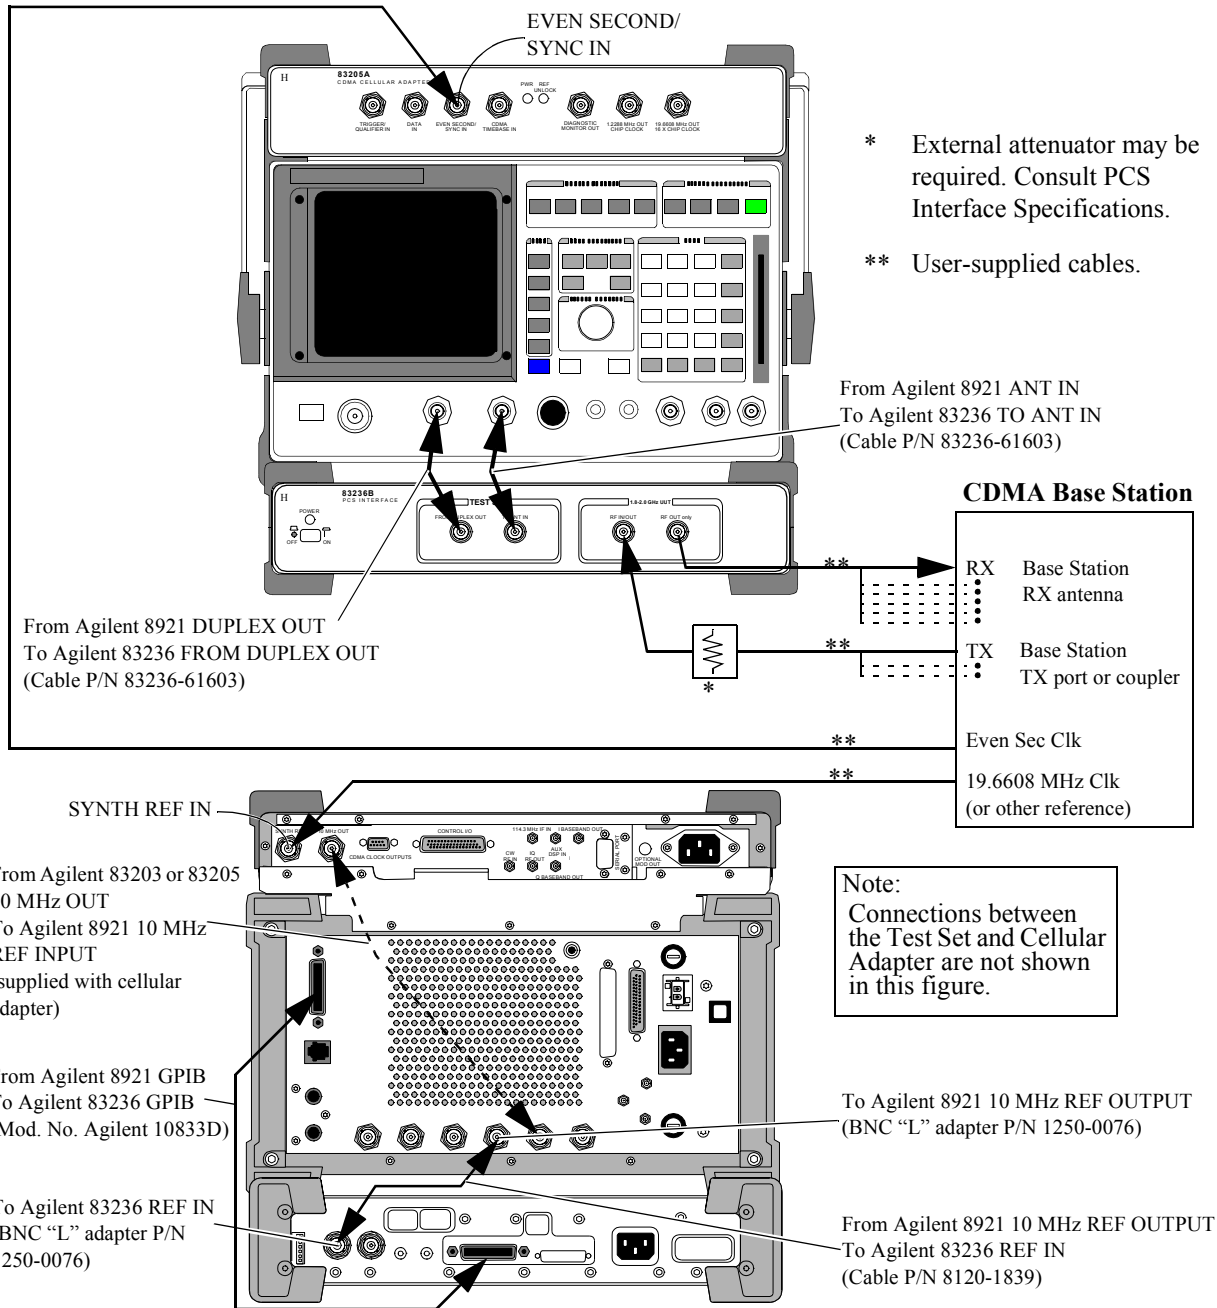

Figure 15 Connection Diagram for the Agilent 8921 Test Configuration (CDMA Base Station Tests)
- 2 Make the front and rear panel connections shown in figure 15.